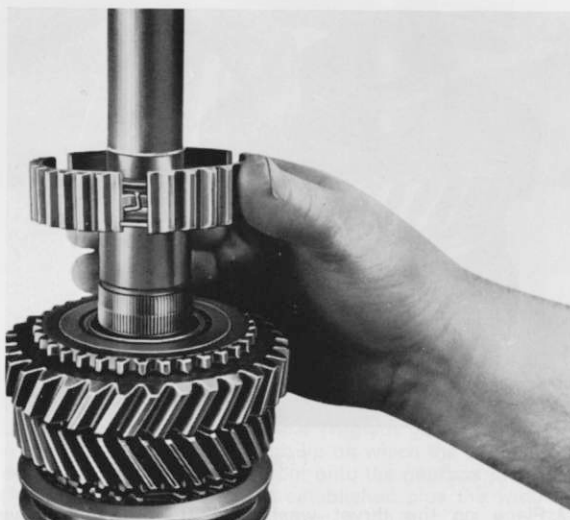

Fig. 35
12. Heat 1st and reverse gear synchrobody (419) 80°C and with the longer hub placed first in the position on the shaft splining, marked during stripping, (Fig. 35), press up to stop with tool .6. Insert circlip (409) in the radial groove